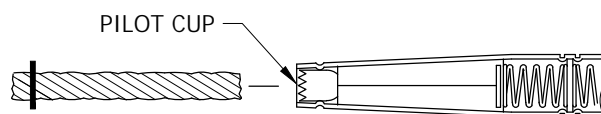
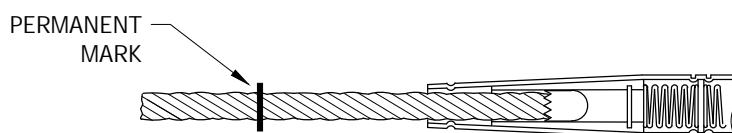

FIGURE 3
FIGURE 4
- H. THE FIGURES ABOVE ILLUSTRATE THE BASIC OPERATING PRINCIPLES OF THE AUTOMATIC SLEEVES. AS THE PREPARED CONDUCTOR IS INSERTED INTO THE SLEEVE (FIGURE 3), THE JAWS ARE FORCED TOWARD THE WIDER PORTION OF THE TAPERED SPLICE BODY, PERMITTING THE JAWS TO SEPARATE AND ACCEPT THE CONDUCTOR (FIGURE 4). THE INTERNAL SPRING KEEPS THE JAWS FROM OPENING ANY MORE THAN NECESSARY. WHEN THE CONDUCTOR HAS BEEN COMPLETELY INSERTED, TENSION IS APPLIED, FORCING THE JAWS IN THE DIRECTION OF THE NARROWING TAPER, WHICH IN TURN INCREASES THE COMPRESSIVE FORCES OF THE JAWS UPON THE CONDUCTOR. AS THE LINE TENSION INCREASES, SO DOES THE GRIPPING FORCE OF THE JAWS.